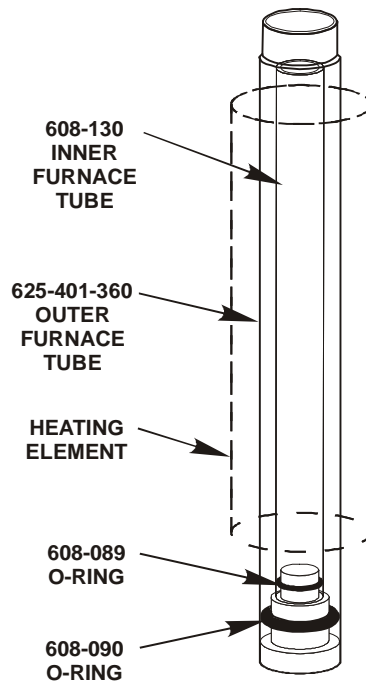

Figure 3-14
4. Insert the outer furnace tube into the heating element. The outer furnace tube will meet resistance as it is pushed past the o-ring seal. Before the outer tube is fully in place wrap insulation around the tube near the top (the insulation will be placed between the inner heating element and outside of the outer combustion tube to help keep heat within the furnace area). Refer to Figure 3-14 on page 3-42. Continue to push the outer furnace tube until it is firmly seated.
8. Roll the graphite pad and insert it into one end of the inner furnace tube until there is a $\frac{1}{2}$ inch recess between the graphite pad and the end of the inner furnace tube. Refer to Figure 3-14 on page 3-42.